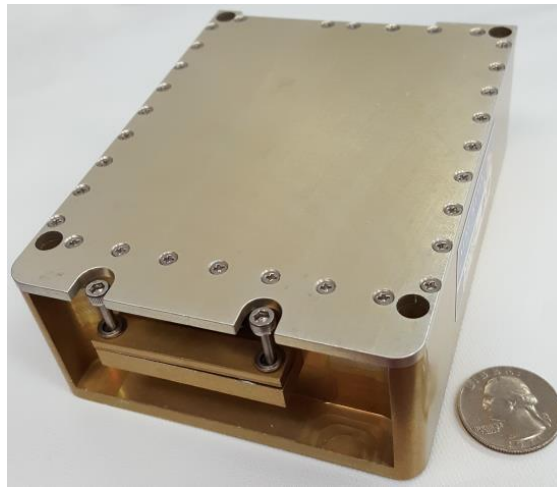

Figure 1: Vampire offers a ruggedized design in a favorable package size.
The Vampire hardware, shown in Figure 1, decodes the bus controller (BC) / remote terminal (RT) interaction and transmits the information over the Ethernet connection. For efficiency, one Ethernet packet is transmitted from Vampire for every eight MIL-STD-1553 BC/RT interactions. Vampire also creates high precision timestamps for the BC and RT traffic. Each bus BC message has a timestamp resolution of 5 nanoseconds (ns) which is 4x the industry standard. The RT response also has a resolution of 5 ns which is 20x the industry standard. To protect the avionics busses, Vampire performs as a one-way device. Vampire is not capable of transmitting MIL-STD-1553 packets and is unable to receive Ethernet data.